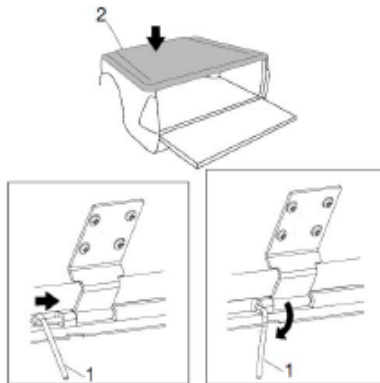

FIGURE 5
1. Fit tonneau cover (2) and secure hinges with hinge pins (1). Refer to figure 5.